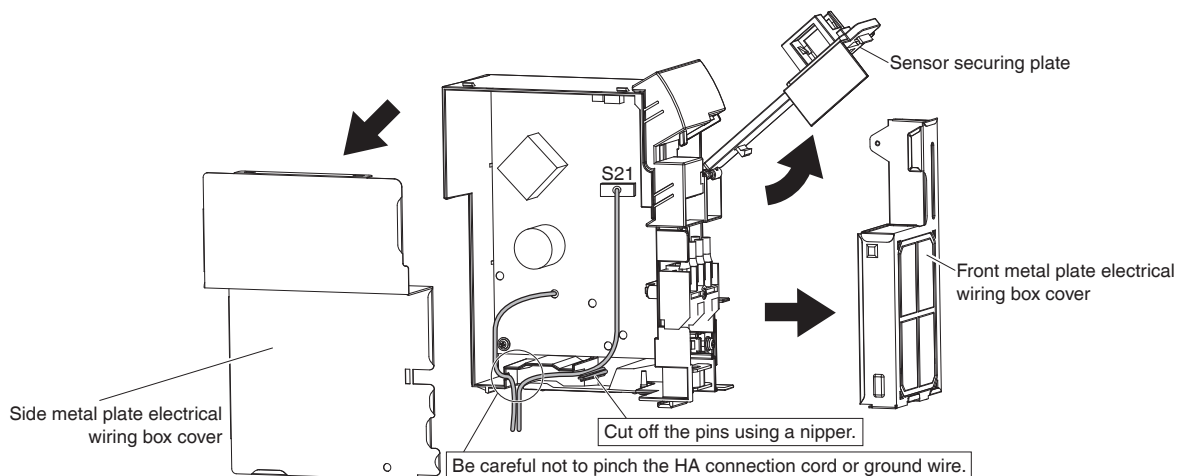

Fig. 1
- 2) Open up the sensor securing plate. (See Fig. 1)
- 7) Remove the side metal plate electrical wiring box cover (7 tabs). (See Fig. 1)
- 8) Cut off the pins using a nipper. (See Fig. 1)
- 9) Wire and connect the HA connection cord to the S21 connector. (See Fig. 1)